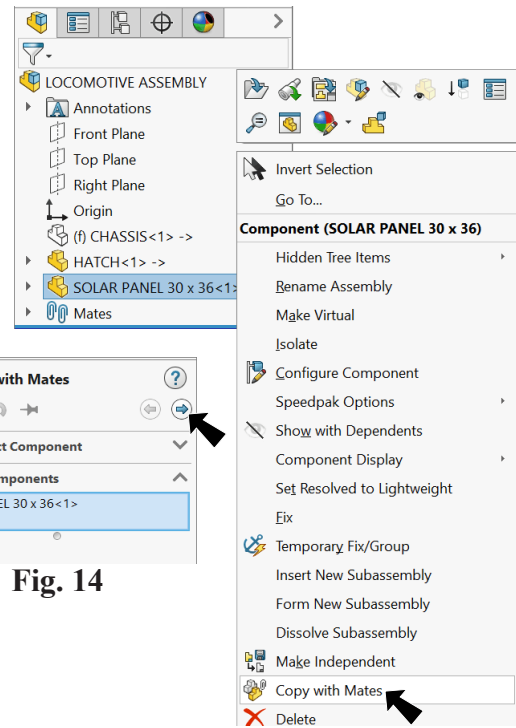

Fig. 14
Step 1: Select Component, **Fig. 14**